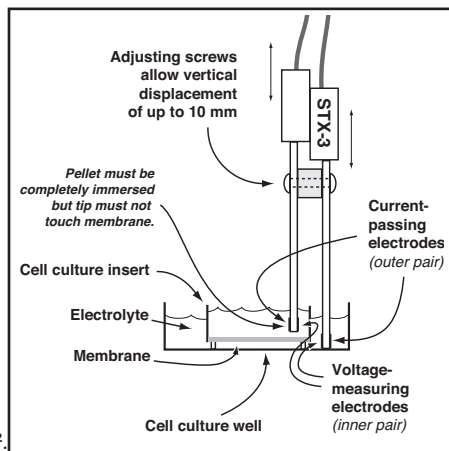
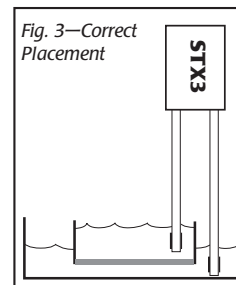
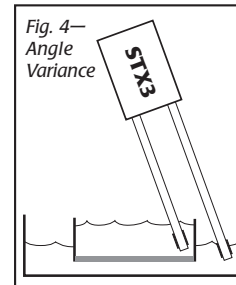
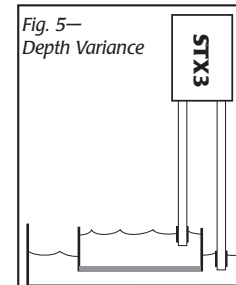

Fig. 2—STX3 placement
Fig. 3—Correct Placement
Fig. 4—Angle Variance
Fig. 5—Depth Variance
Before using the electrode, the distance between the two electrodes should be adjusted so that when the longer electrode touches the bottom of the cell culture well, the shorter electrode should neither touch the membrane of the cell culture insert by its tip, nor let the silver/silver-chloride pellet be exposed to the air (see Fig. 1). To adjust the distance of the electrode, loosen the screws on the electrode probe as shown in Fig. 2, adjust to the desired distance and tighten before use. For most brands of cell culture inserts, a difference of 2.5 mm between the two electrodes will work best. However, some, such as the Transwell insert, may need a slightly longer distance.
5. Place the electrode in the sample cup. The **STX3** electrode is designed to facilitate measurements of membrane voltage and resistance of cultured epithelia in tissue culture wells. The lengths of the electrodes are unequal allowing the longer (external) electrode to touch the bottom of the dish containing the external culture media while preventing the shorter (internal electrode) from reaching the bottom of the tissue culture cup or insert (see Fig. 2). This feature ensures proper positioning between the electrode and the cell layer in the cup during the trans-membrane measurement. In addition, by positioning the longer tip so that it touches the bottom of the dish each time, the reproducibility of the measurements is significantly improved. Place the electrode into the well so the tips just touch the bottom of the wells *without flexing* the electrode. See Fig. 3. *Variance of the angle (Fig. 4) or depth of immersion (Fig. 5) of the electrode will affect resistance measurements.*